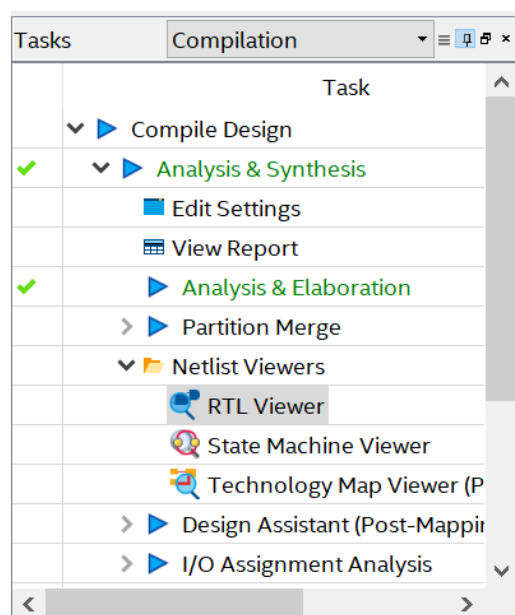
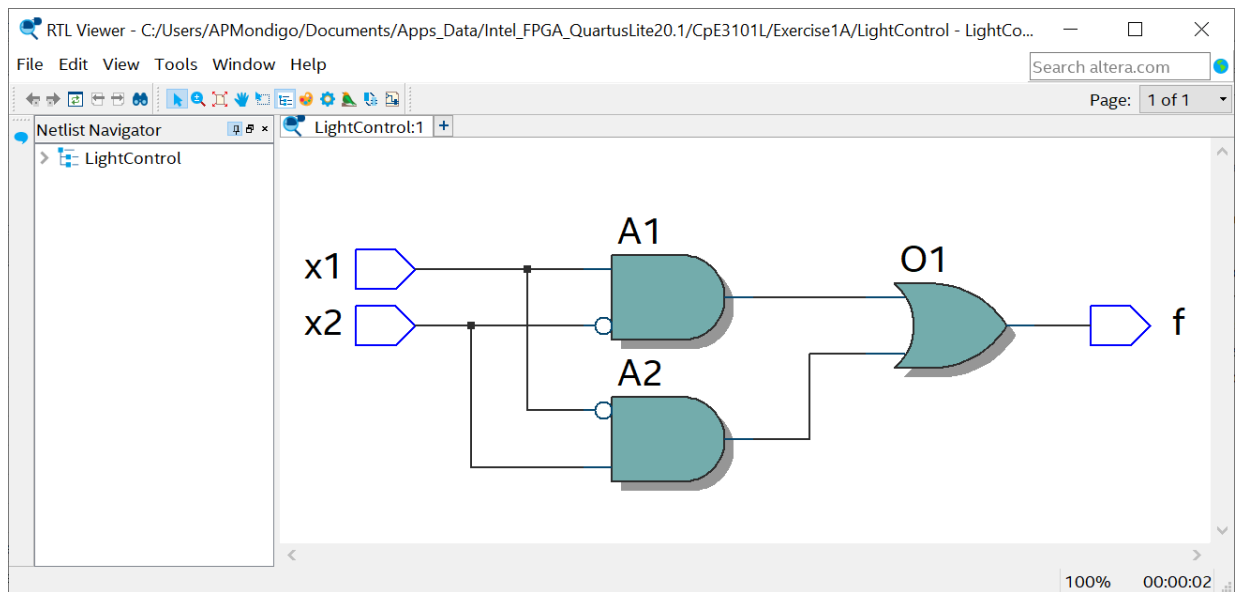

Figure 16. RTL Viewer
Figure 17. Synthesized Schematic Diagram for *LightControl.v* (as seen in RTL Viewer)
- To briefly see the synthesized circuit, you may do so by expanding the **Analysis & Synthesis** button. Under **Netlist Viewers**, click **RTL Viewer**. This is shown in Figure 16. **RTL means register transfer level** and the **RTL Viewer** allows a preview of the schematic design netlist (*i.e., interconnections of logic elements and other components*) after synthesis. However, this view is not the final structure of the design, since not all optimizations are included in synthesis. Instead, this is the closest possible view to the original design. See Figure 17 and compare it with Figure 9.
- **Schematic Diagram of Synthesized Circuit** using RTL Viewer (such as in Figure 17)